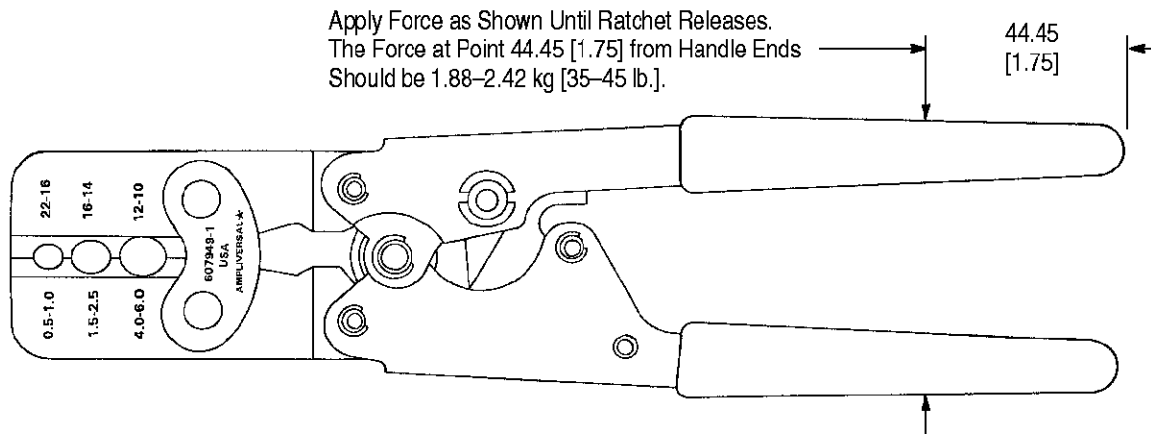

Figure 4
1. Apply force as shown until ratchet releases. The force at a point 44.45 [1.75] from handle ends should be 35 to 45 pounds. See Figure 4.